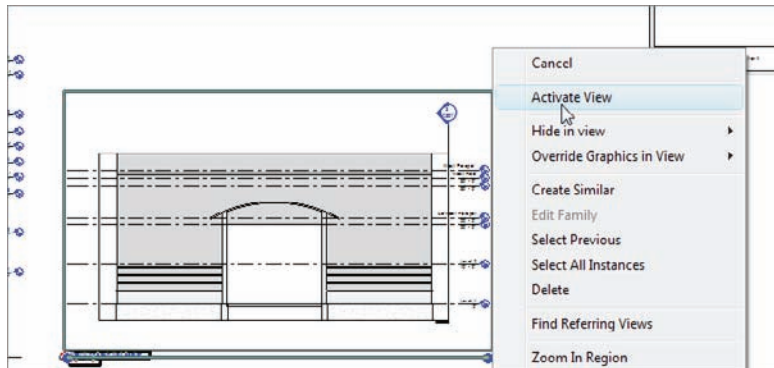

FIGURE 14.11 Activating a view
2. Zoom in on the viewport West Wing South Wall Section, as shown in Figure 14.11.
4. Right-click, and select Activate View (see Figure 14.11).